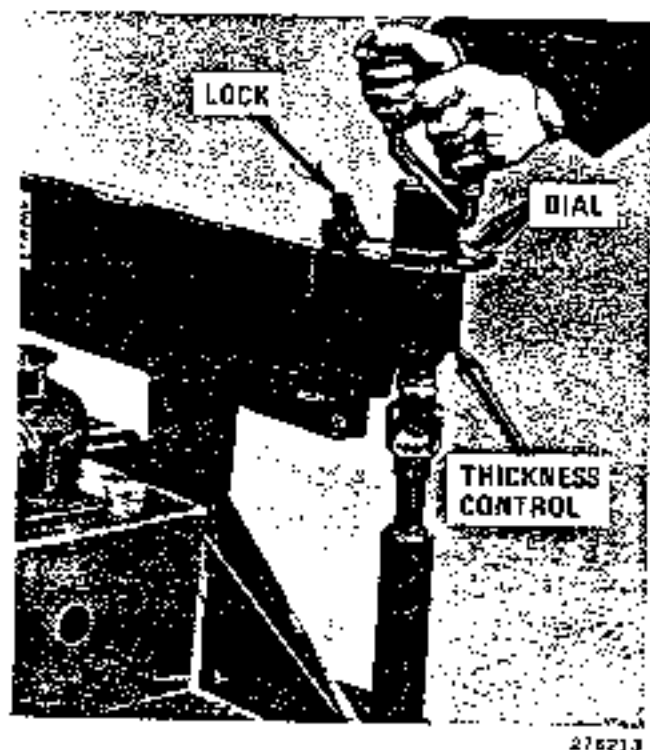

FIGURE F-23 - Thickness Control
THICKNESS CONTROL (Refer to Figure F-23)
2. To decrease the depth, turn controls to the left or counterclockwise. A lock is provided at the lower end of the thickness control screws, Figure F-23, to secure the position of the controls.
4. Dial, Figure F-23, are provided as a guide for the screed operator. When the controls are adjusted for a given depth, on material being laid, he will note the positions of the controls. This will guide him in making adjustments up or down when needed, as machine progresses.